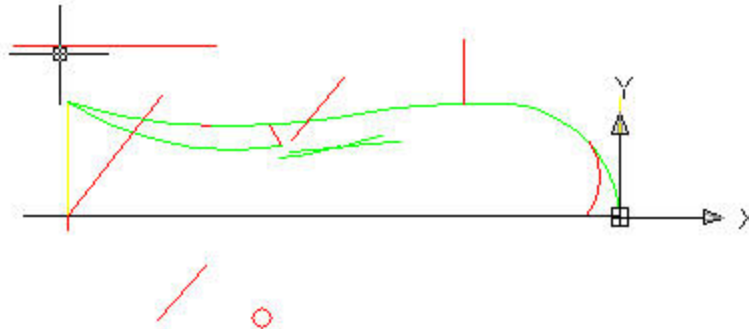

FIGURE 4.1.0 (to be corrected)
4.1 Can you relate to what is shown in Figure 4.1.0 compared to what was stated in section 3.0?